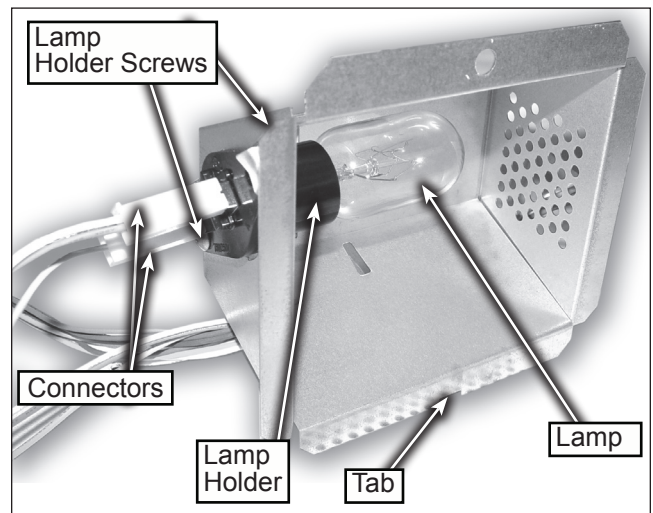

Figure 2
5. Disengage the tab on the opposite side of the housing to access the lamp and lamp holder, see figure 2.
6. Unscrew the lamp and replace, see figure 2.